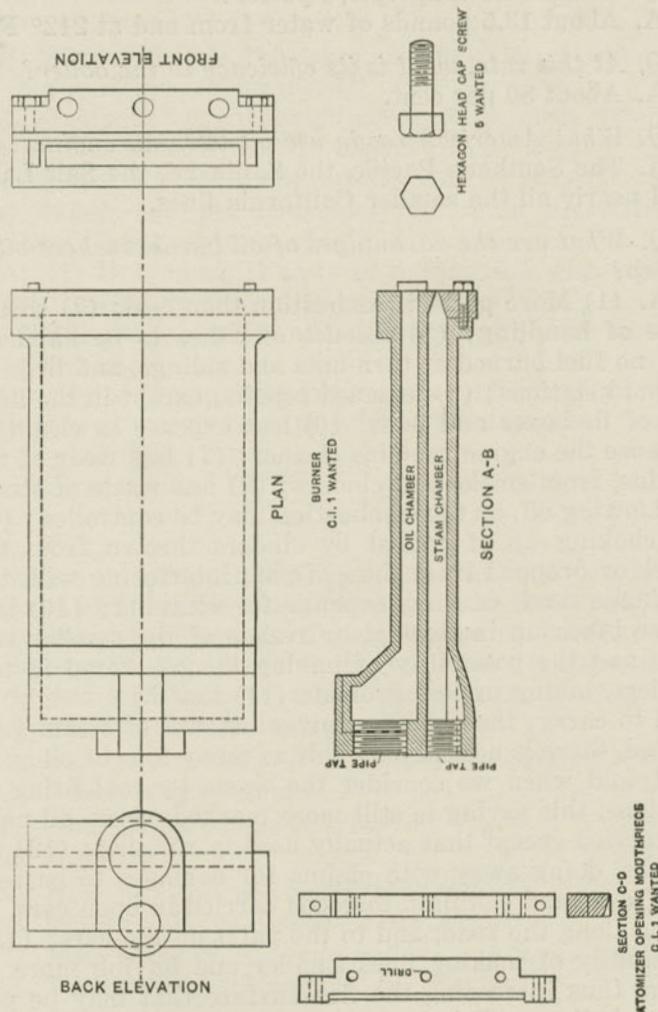

Fig. 296a. Booth Oil Burner, Santa Fé Lines.
A. Referring to Fig. 296a: There are two chambers, one for steam and one for oil, the latter being above and the former being supplied with a very fine slit, as shown at the left-hand end. The steam heats the upper chamber, and in time the oil as it flows from right to left in the figure. On issuing at the left it is spread by the steam into the fire, making a wide sheet of flame. The steam and oil supply valves are controlled from the cab. This burner is readily attached to the mud ring.